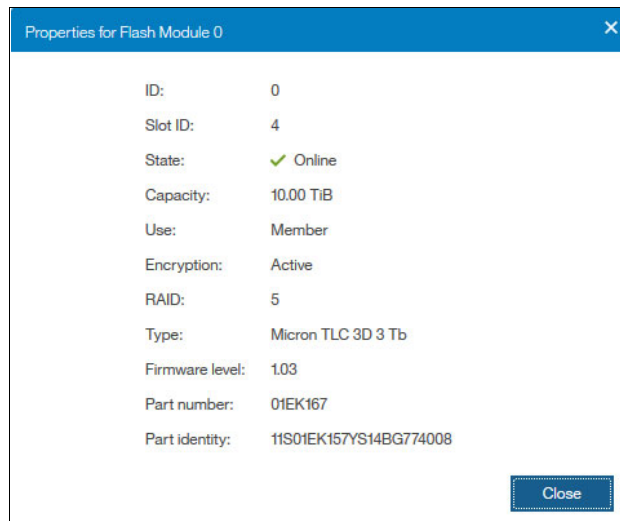

Figure 6-37 Flash Module ID 0 properties
To view properties of the individual flash modules, from the **Monitoring** → **System** window, hover the mouse pointer over the FlashSystem 900 image, right-click a flash module, and select **Properties**. The flash module properties are displayed, as shown in Figure 6-37.
**Note:** Flash module ID numbers are logical number and do not often match the physical slot ID where a flash module is installed. In the example that is shown in Figure 6-37, flash module ID 0 is in physical Slot ID 4.